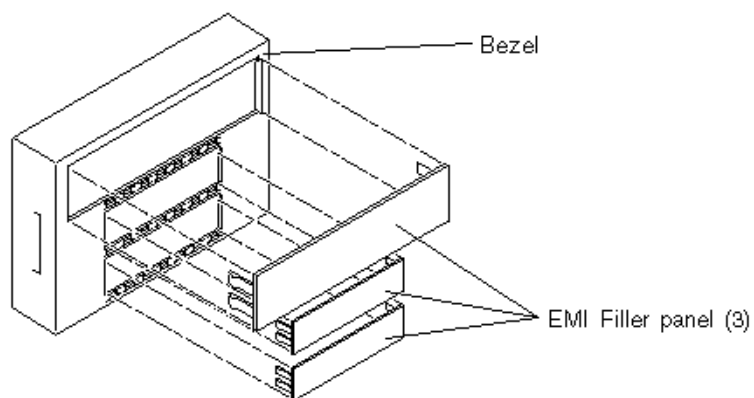

Figure 8-5 Removing and Replacing the Bezel EMI Filler Panel
- 2. Remove an EMI filler panel as follows (Figure 8-5):**
3. **Position and snap the EMI filler panel into the bezel (Figure 8-5).**